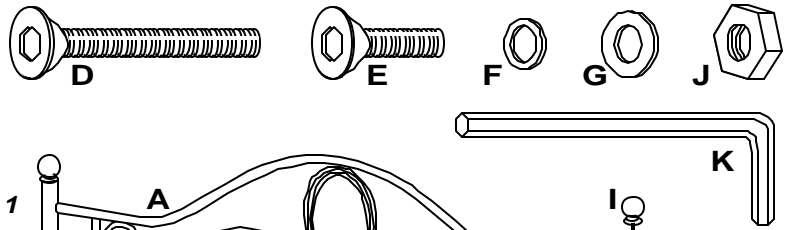

Figure 1
Begin assembly by first attaching each Finial (I) to top of each post on both Headboard & Footboard Panels (A & B), by screwing into place. See Figures 1 & 2. Do not over-tighten as it may cause stripping to the threads.
Insert both Leg Extensions (C) into bottom of Headboard Panel (A), and attach using 2 Short Allen Bolts (E), 2 Spring Washers (F) & 2 Metal Washers (G) per each post. Tighten bolts only using Allen Wrench (K) provided with hardware. See Figure 1.